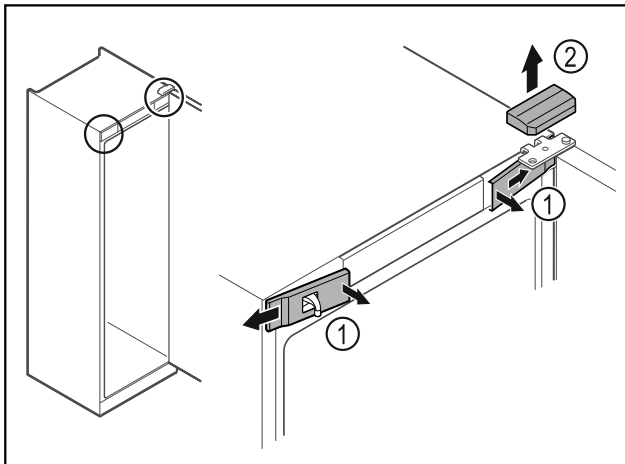

Fig. 13
- Unlatch the front covers Fig. 13 (1) on the inside and remove them sideways.
- Lift off the upper cover Fig. 13 (2).